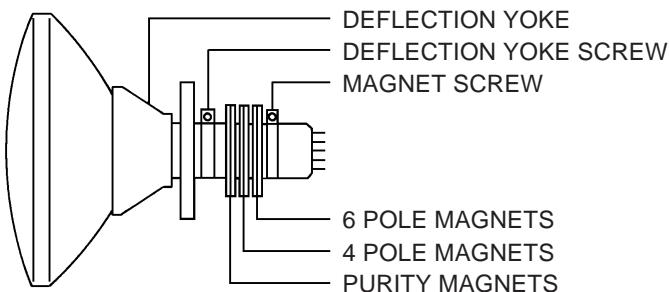

Fig. 4-1
1. Tighten the screw for the magnet. Refer to the adjusted CRT for the position. (**Refer to Fig. 4-1**)